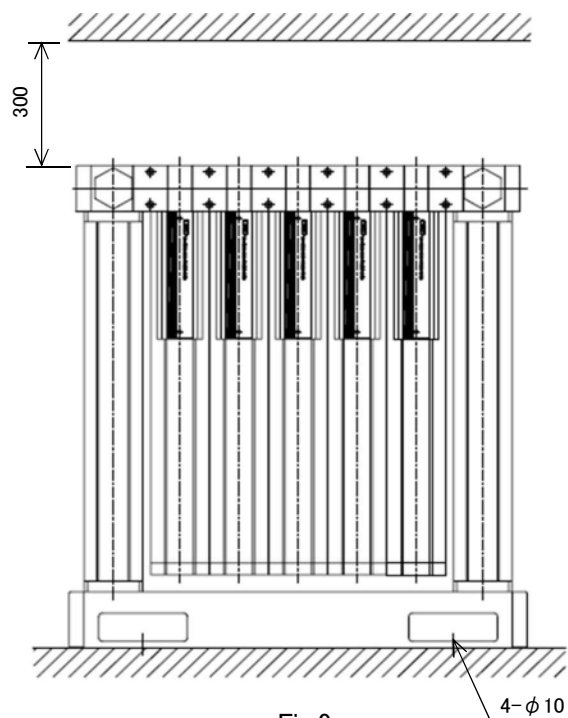

Fig.9
- 3) Allow a minimum of 300 mm upward for maintenance purpose. (Refer to Fig.9)